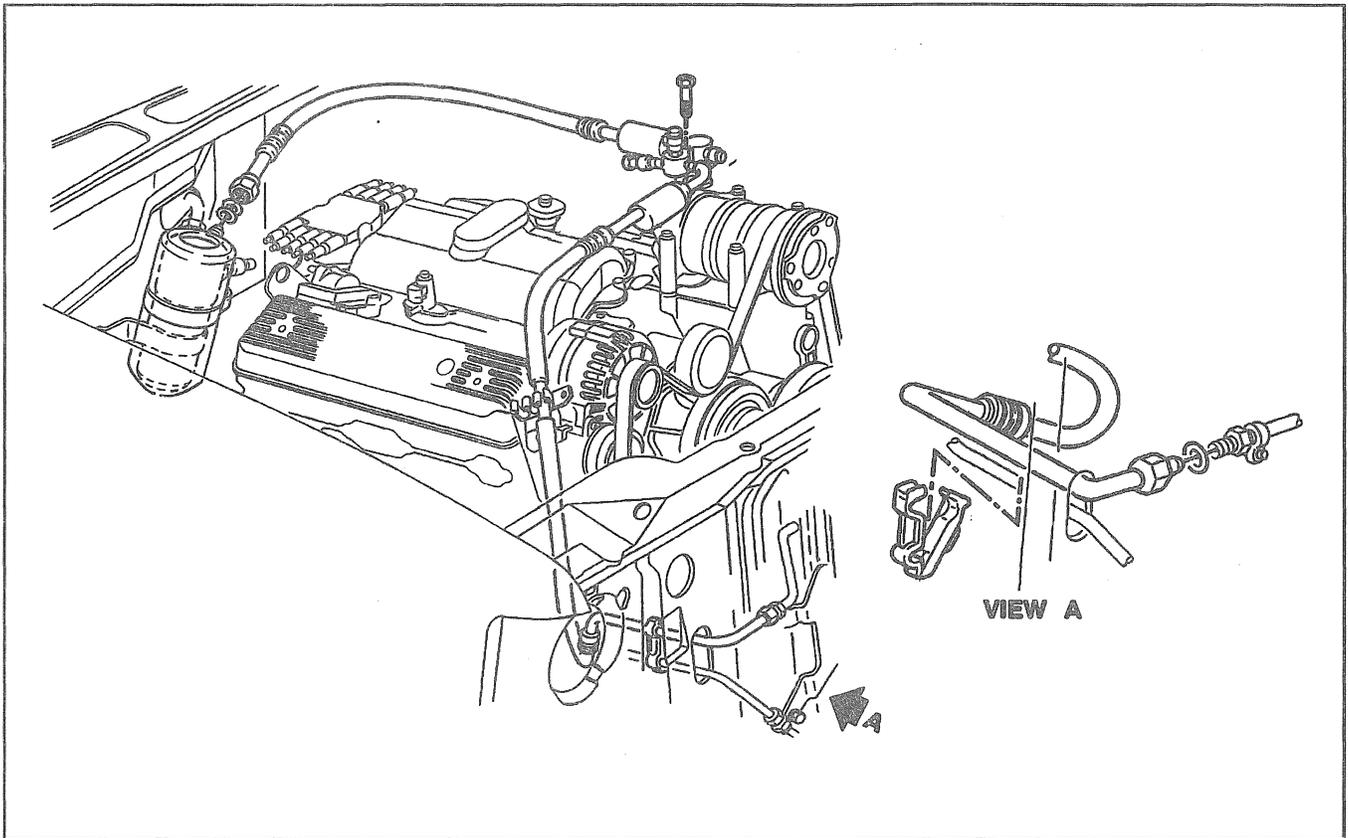

Figure 31—Compressor and Condenser Hose Assembly
- Suburban/Utility and Crew Cab Models (5.7L Engines w/o Aux. A/C) Figure 31.